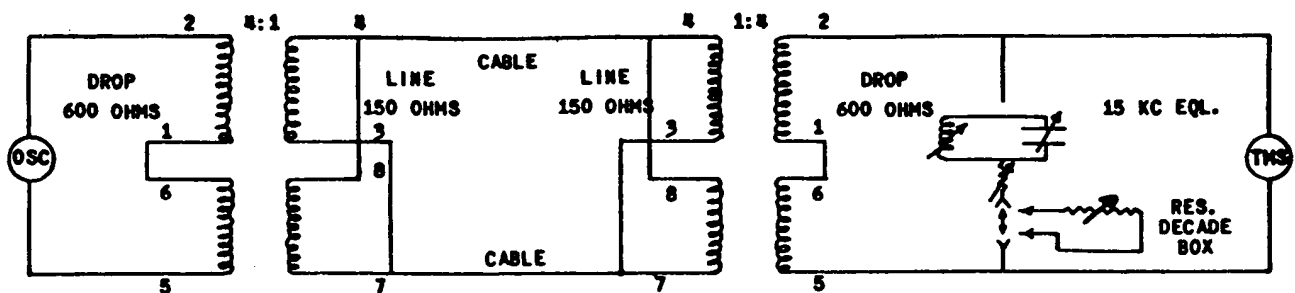

FIGURE 10
- 11.06 A typical equalization layout with resistance decade box is shown in Figure 10.